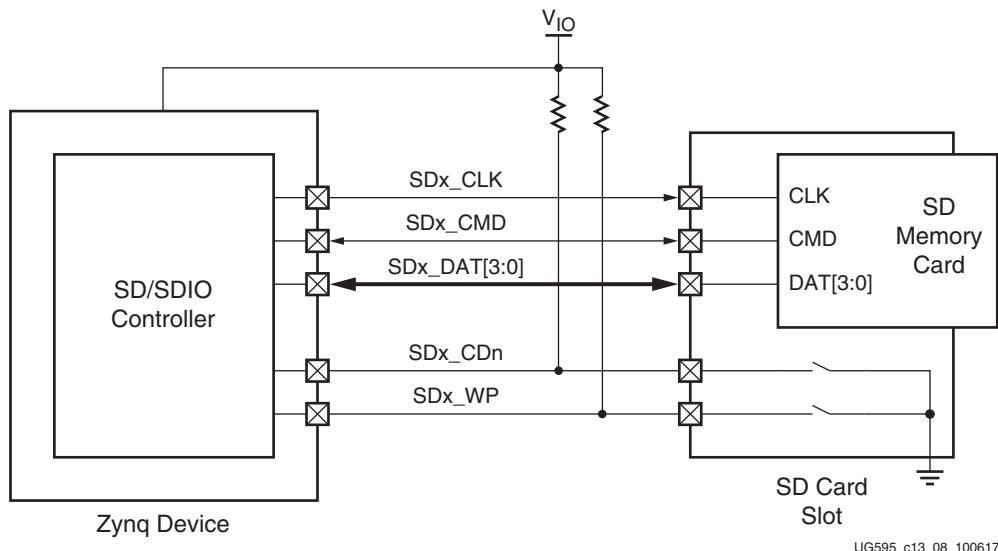

Figure 13-8: SDIO Controller SD Card Detect and Write Protect Diagram
- Secure digital (SD) memory
Some SD card slots provide two additional pins: card detect (CDn) to signal the insertion or presence of a card, and write protect (WP) to report the position of the write protect switch on the memory card. These signals must be externally pulled up. The card normally pulls CDn Low when inserted. If the WP switch is set to protect the card from writes, then the WP signal remains High. The wiring schematic is shown in Figure 13-8. If the card does not function in this manner, then an alternate method is required to signal the insertion or presence of the card. Additional board design information is located in the *Zynq-7000 SoC PCB Design Guide* (UG933).